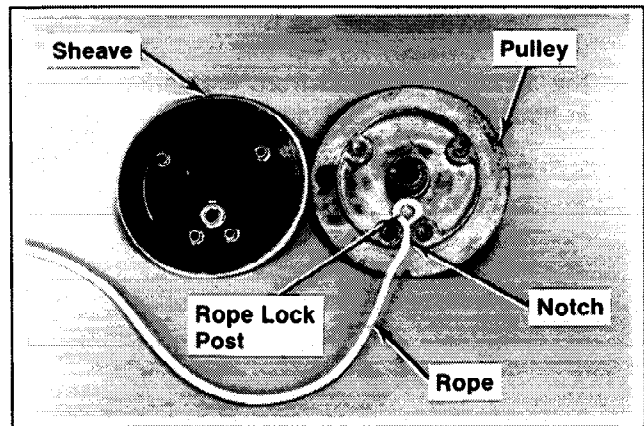

Figure 7-16. Replacing Rope.
3. Remove the 4 Phillips head screws securing the pulley and sheave. Separate the pulley and sheave and remove the old rope. Refer to Figure 7-16.